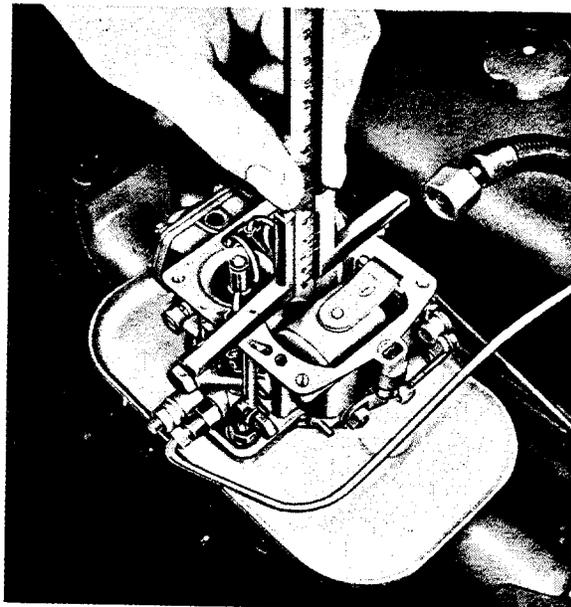

Fig. M 31/14
**Note:** Make the check with a dip stick or depth gauge. Insert the gauge slowly and evenly at the separating wall of the float chamber beside the Venturi until it reaches the fuel (Fig. M 31/14).